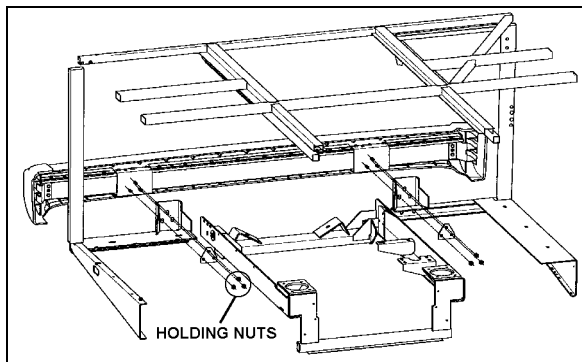

FIGURE 12: REAR BUMPER ASSEMBLY
1. Remove 6 nuts (3 on each side) holding bumper assembly to vehicle and remove bumper (Figure 12).